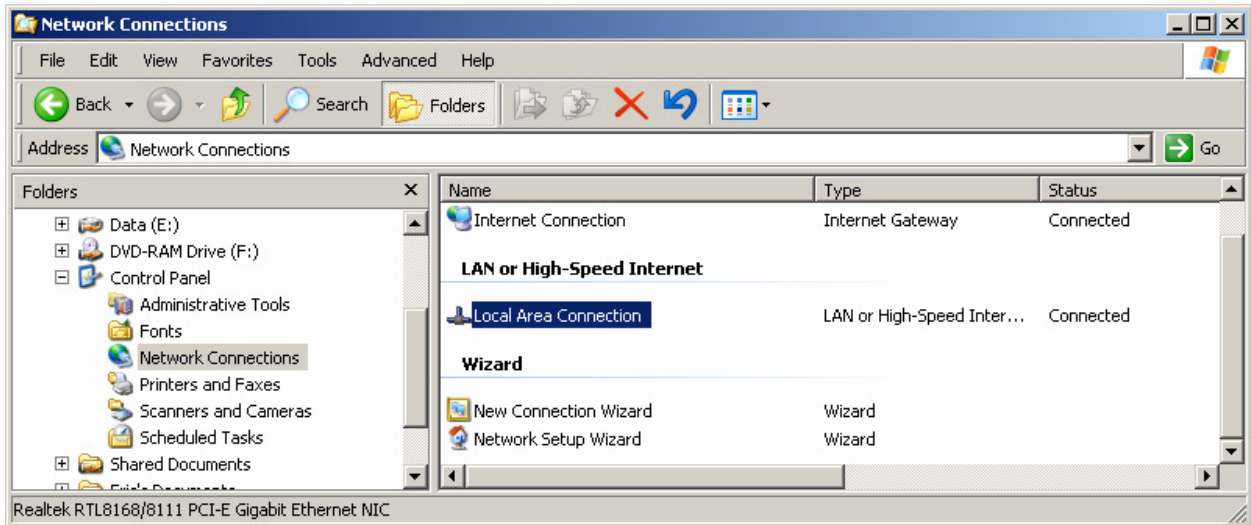

Figure 25: Computer Network Connection
1. Open up Windows Explorer and navigate to My Computer -> Control Panel -> Network Connections -> Local Area Connection, refer to Figure 25:, Computer Network Connection on page 37.